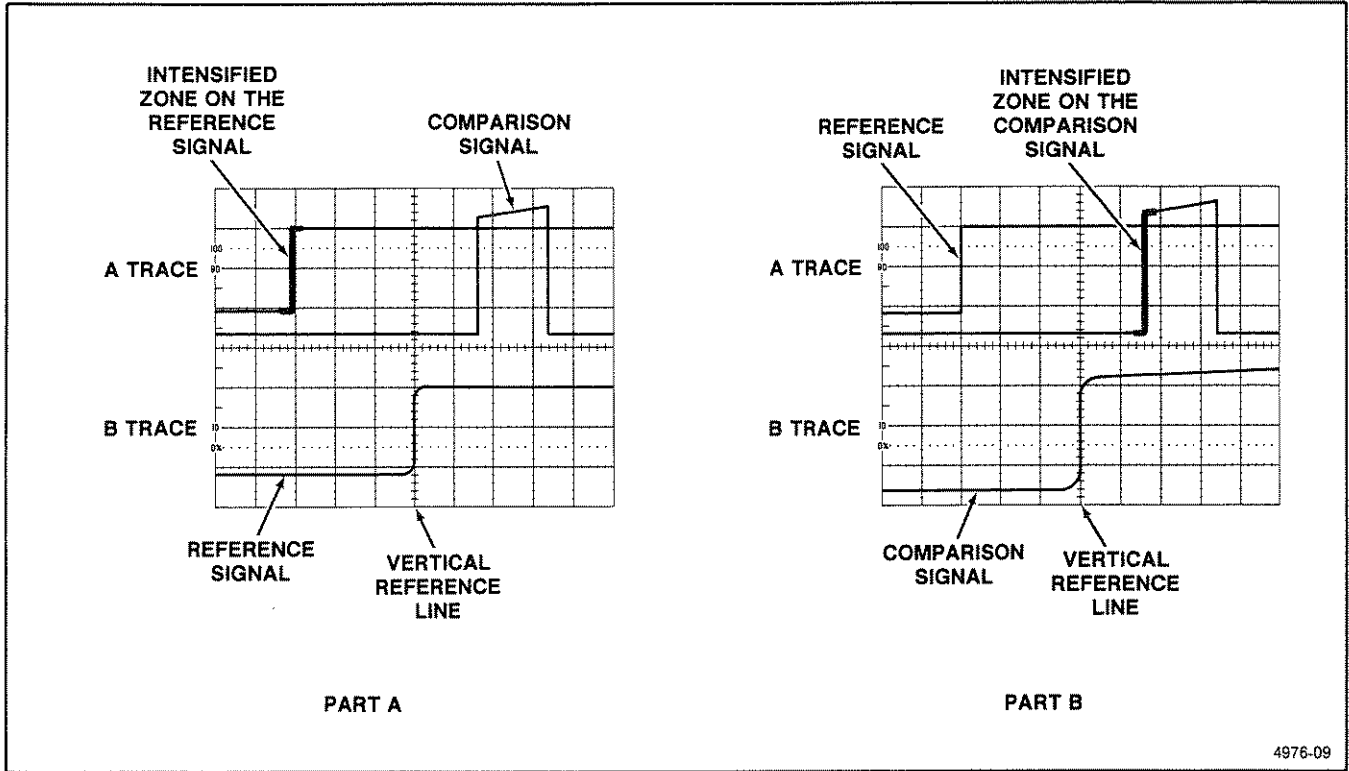

Figure 2-24. Time difference between two pulses on two time-related signals.
6. Rotate the B DELAY TIME POSITION control to move the intensified zone to the appropriate edge of the reference signal (on the A trace); then fine adjust until the edge of the reference signal (on the B trace) is centered at any convenient vertical graticule line (see Figure 2-24, Part A).
9. Rotate the B DELAY TIME POSITION control to move the intensified zone to the appropriate edge of the comparison signal (on the A trace); then fine adjust until the edge of the comparison signal is at the same vertical reference point as used in preceding step 6 (see Figure 2-24, Part B). Do not change the setting of the Horizontal POSITION control.